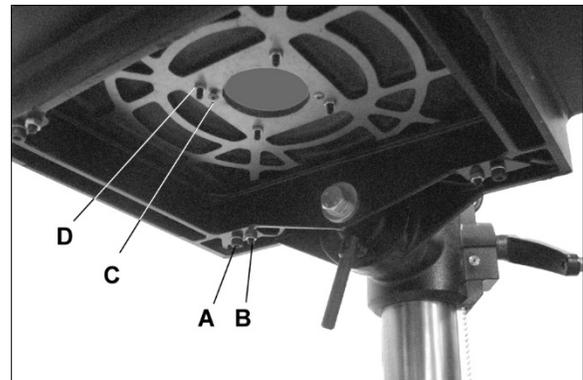

Figure 6-14
2. At corner(s) where table is not level, loosen socket head screw (A, Figure 6-14) slightly. Then loosen hex nut (B) and turn set screw to raise (or lower) table at that point.
3. Tighten hex nut (B) and socket head screw (A) to secure position.
5. Remove two screws beneath table insert (C, Figure 6-14).
6. Loosen nuts (D), then turn set screws as needed until insert is level with table surface. Re-tighten nuts (D) up against table.
7. Reinstall the two screws (C) into the table insert.